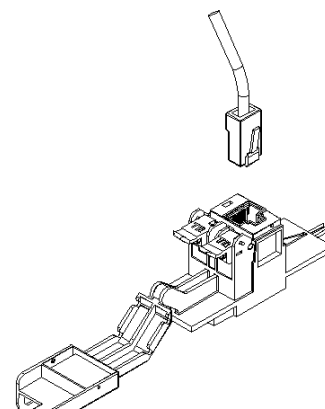

Figure 3
- Dress terminating wires (to protector) over NID divider (see Figure 3).